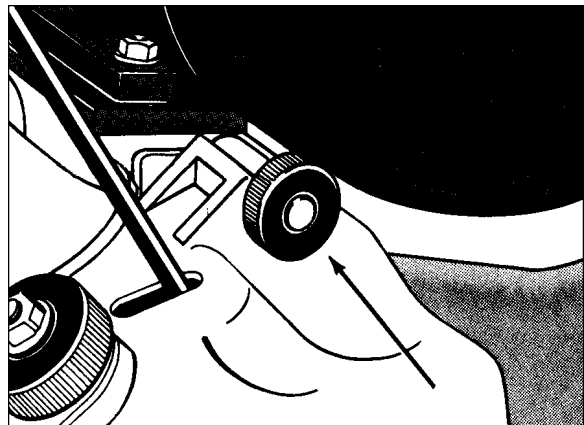

Figure 4
5. Unscrew the motor mounting knob clear of the counterbore on chassis. See figure 4.
3. Screw in the motor mounting knob completely. See figure 4.